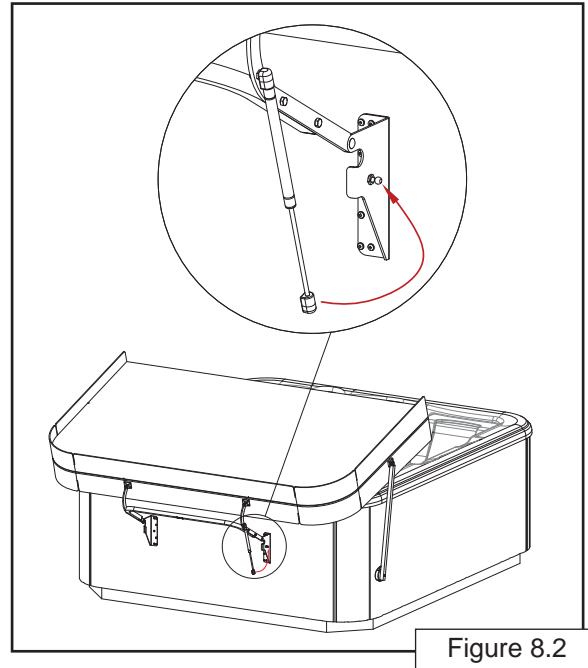

Figure 8.2
2. Fold cover in half and pull to position shown (Figure 8.2). Snap the lower joint of the Gas Spring onto the lower ball stud (Figure 8.2).